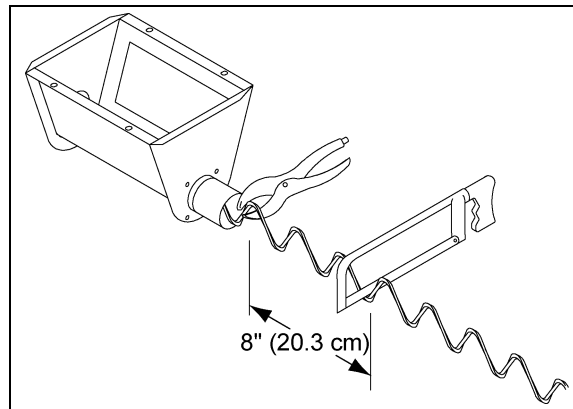

Figure 5W Cutting the Auger
8. For ease of trimming the auger, pull the auger out an additional 8" (20 cm) past the mark and clamp it at the unloader. This clamping releases tension at the mark and thus eases cutting. (See Figure 5W.)